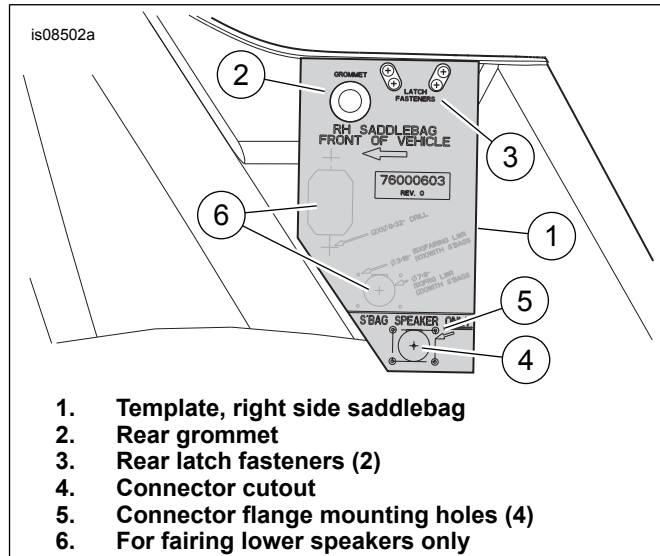

Figure 1. Right Saddlebag Drilling For Stage II Saddlebag Speaker Installation
3. See Figure 1. Place the template (1) on the saddlebag. Align the grommet (2) and latch (3) fastener openings. Drill the hole at locations (4) and (5), beneath the remark "S'BAG SPEAKER ONLY".
4. Drill four holes (5) for the **lower** connector flange mounting locations.
8. **If also installing an amplifier in the right saddlebag as part of the Fairing Lower Speaker Installation Kit:** Cut the openings (see Figure 1, Items 6) for the two upper bulkhead connectors now, per the instructions in **that** kit.